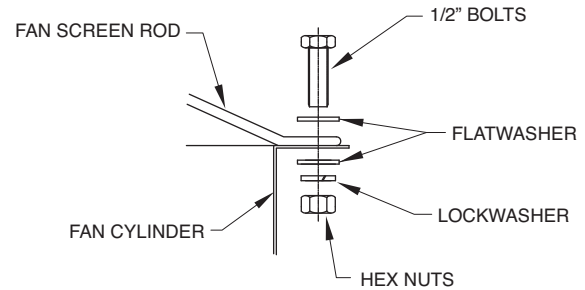

Figure 21 - Attaching Fan Screen to Cylinder
2. At each hole, attach the fan screen to the discharge cylinder as shown in Figure 21.
4. At each hole, attach the fan screen to the discharge cylinder as shown in Figure 21. At the four points where the support frame meets the cylinder, bolt the support frame to the cylinder together with the fan screen.